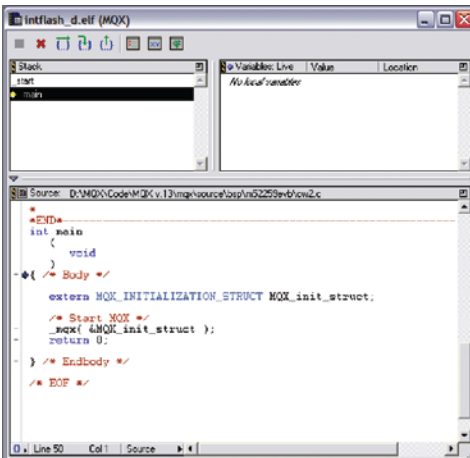
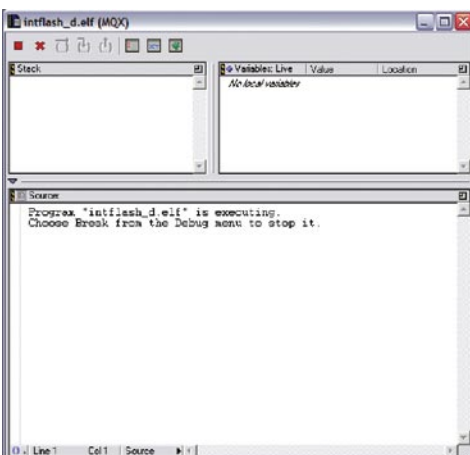

Figure 6: MQX Debug entry point
Figure 7: Running MQX code
- Once the debug session starts you will see the MQX entry-point function in the code window as seen in Figure 6. Click the **Debug** icon again to run the code, which will look like Figure 7.